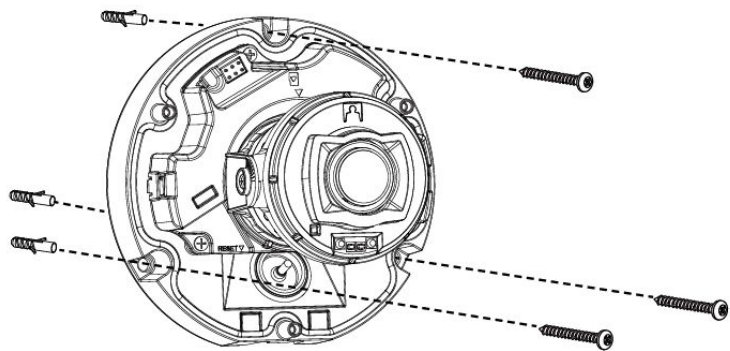

Figure 1-5
**Step 5** Align the screw holes of the camera base with the mounting hole sites, and then tighten the mounting screws into the screw holes until they are held firmly. See Figure 1-5.